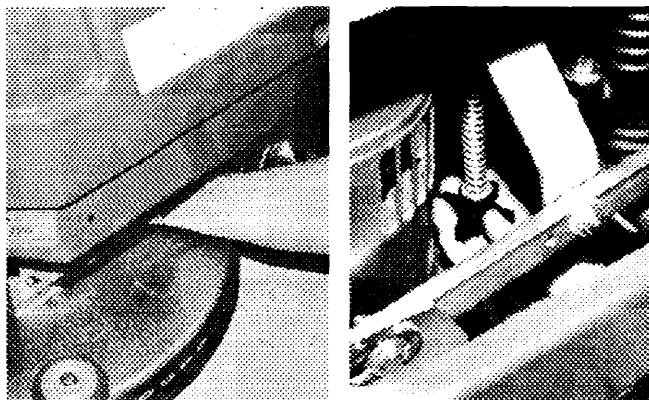

FIG. 10.
3. If the needle is not in the center of the green bar, raise the pad head into the full up position and locate the pad pressure knob under the rear frame. (Figure 10)